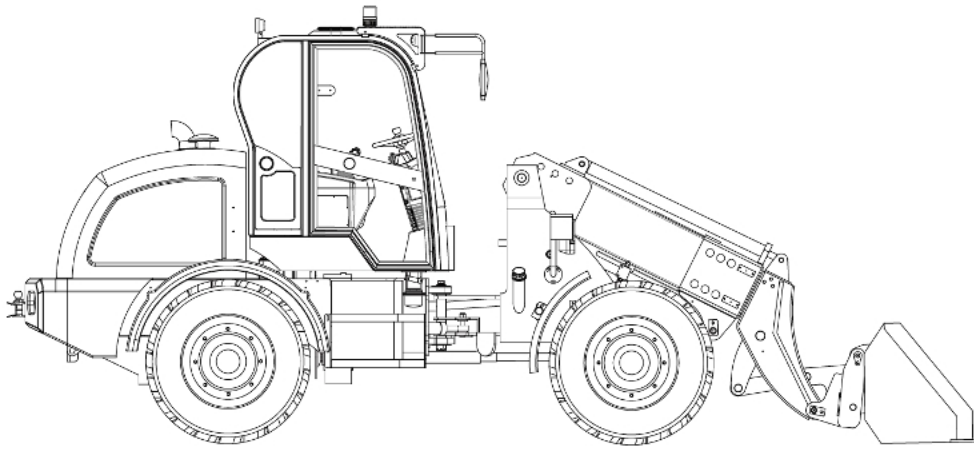

Figure 6-17 Parking status
(2) Filling port of hydraulic oil tank
Step 2: Park loader on a flat field, place control handle in neutral position, stop and pull up parking brake handle, put the blocks before and after the tires, as shown in Figure 6-17;